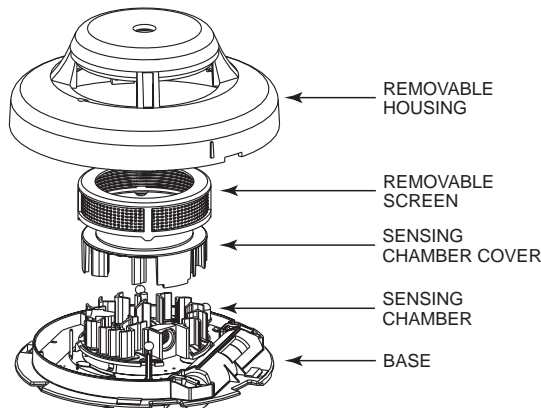

Figure 11. Removal of Cover and Screen for Cleaning
- E. Remove the screen assembly, pulling straight out (see Fig. 11).